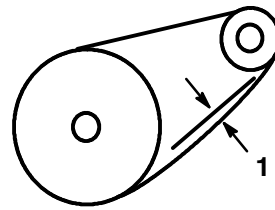

Figure 31
4. Check the deflection of the chain by lifting up on chain with moderate pressure at the mid span. There should be 1/8 to 3/8 inch (3 to 10 mm) deflection (Fig. 31).